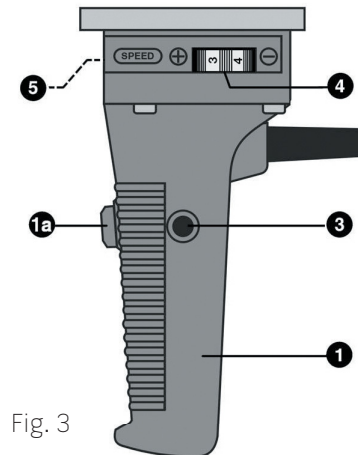

Fig. 3
- ❶ Handle with trigger
- ❷ Handle
- ❸ Locking button for trigger
- ❸ Nozzle
- ❹ Speed control wheel
- ❺ Torque control wheel
With the trigger **1a** on the handle, you switch the extruder on or off. By pressing the locking button **❸**, you can lock the trigger in the ON position; to release it, slightly press the locking button. (figure 3)